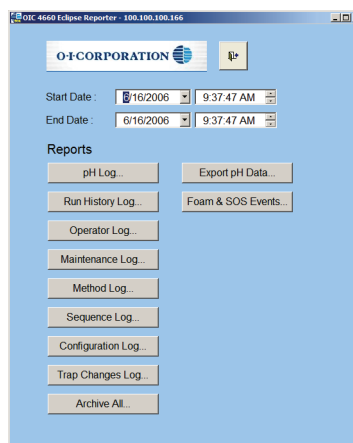

Figure 7.12. Eclipse Reporter Reports screen
4. Select the **Start Date and Time** and **End Date and Time** to define the report (see Figure 7.12).
4. Select the **Start Date** and **Time** and **End Date** and **Time** to define the report (see Figure 7.12).